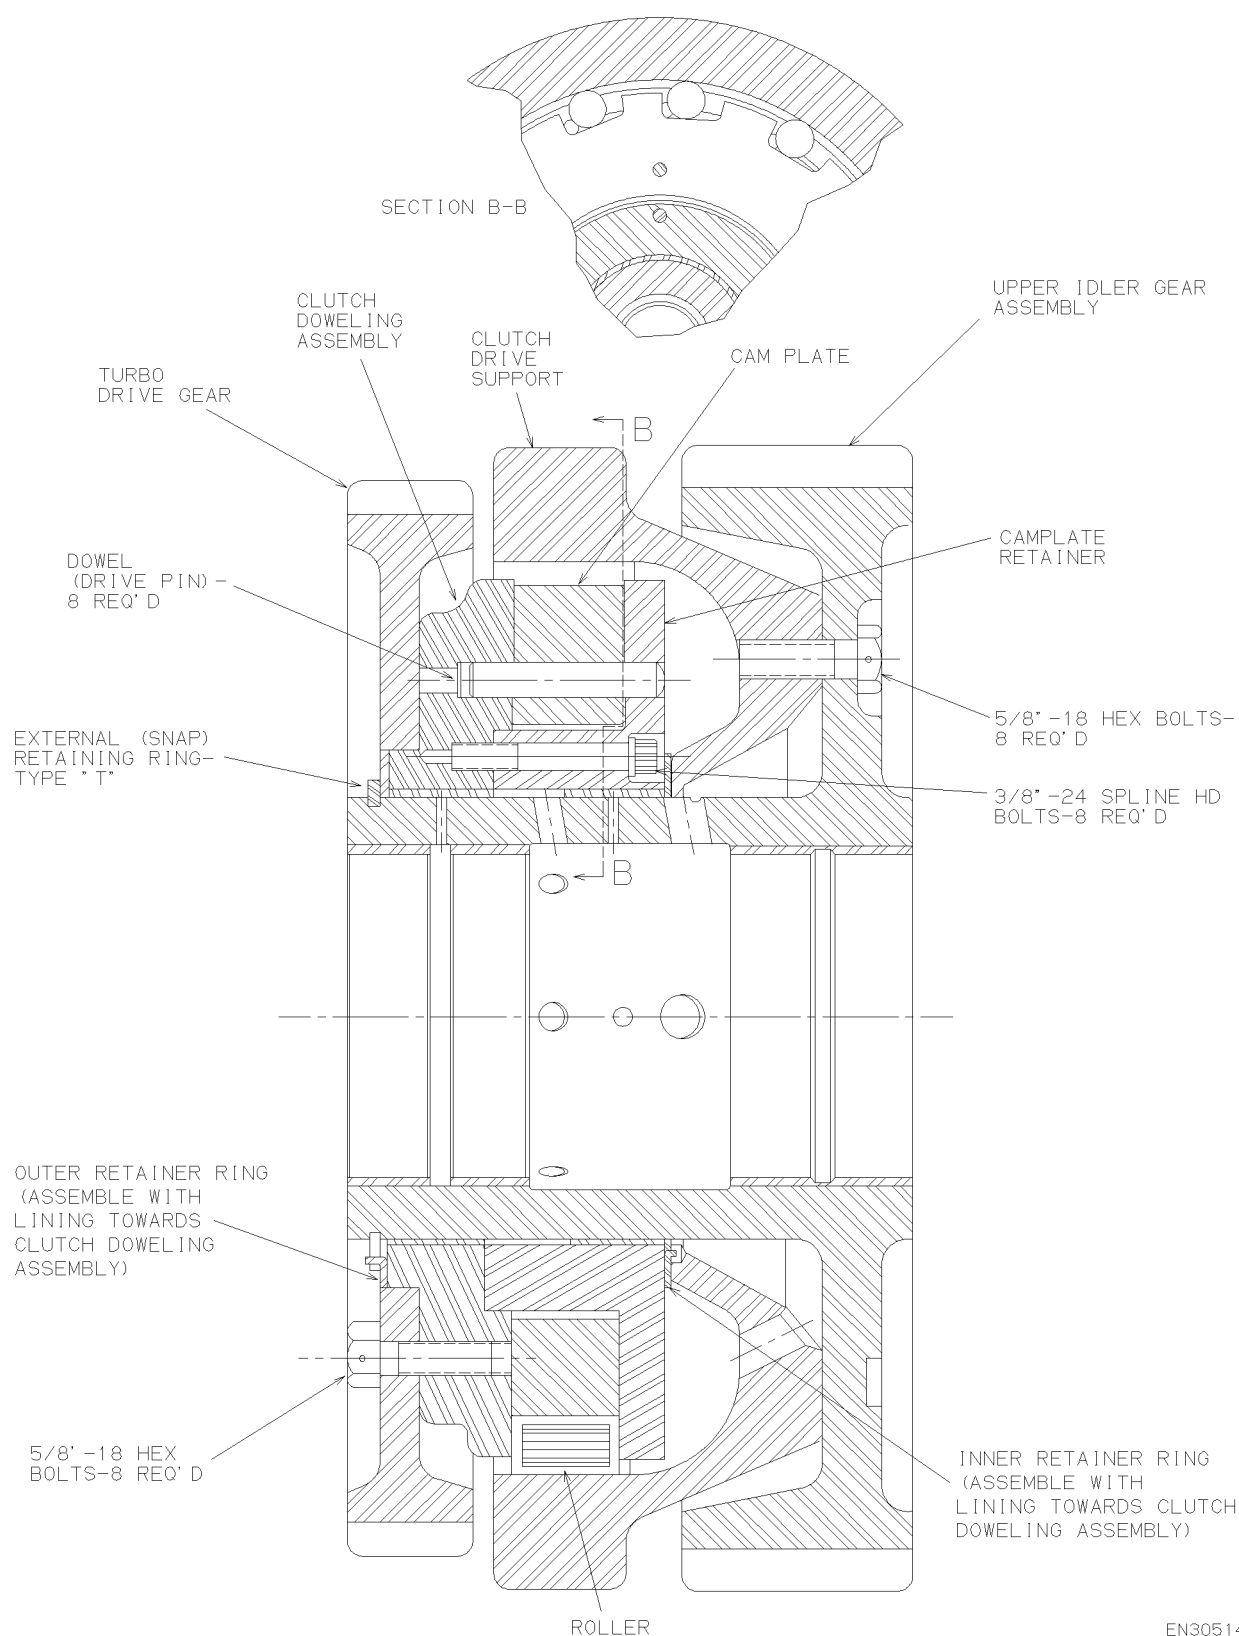

Figure 7-4. Clutch Drive Gear Assembly (Cross-Section)
2. Remove lockwire and the eight 5/8"-18 bolts that hold the turbocharger drive gear to the clutch doweling assembly, Figure 7-4., "Clutch Drive Gear Assembly (Cross-Section)" on page 7-8.